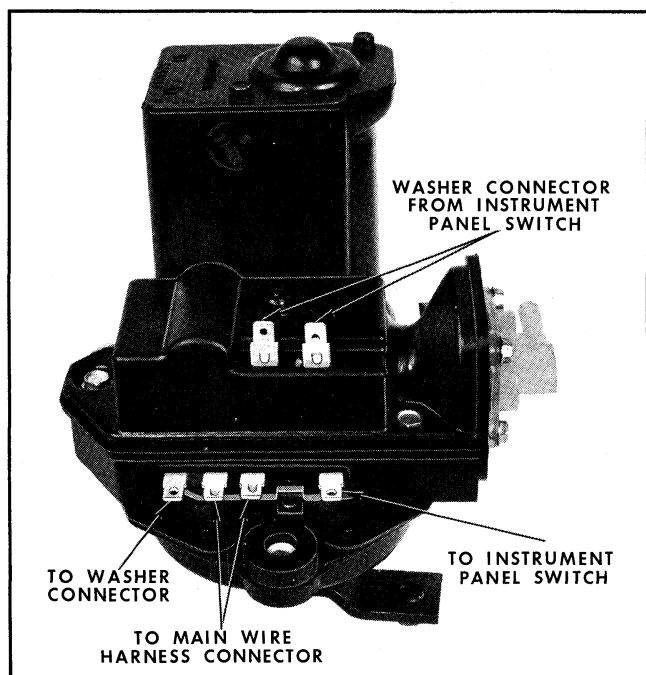

Fig. 11-109 Washer Pump Terminals
2. If all items in step 1 check out, start wiper motor only, then push washer button and listen for "click" as washer relay pulls in. If no "click" is heard, check for 12 volts at terminal No. 2 (Fig. 11-109). No voltage indicates defective wiring. If "click" is heard, proceed to step 4.
3. If correct voltage was found in step No. 2, connect a jumper wire from terminal No. 1 to ground (Fig. 11-109) and operate wiper. If washer